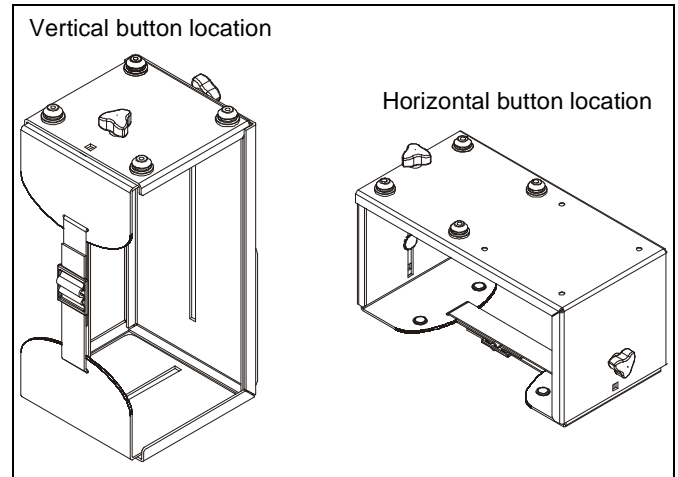

Figure 3
- If mounting vertically, move mounting buttons to the four holes on top of the mount. (See Figure 3)
- If mounting horizontally, move mounting buttons to the top four holes on the back. (See Figure 3)